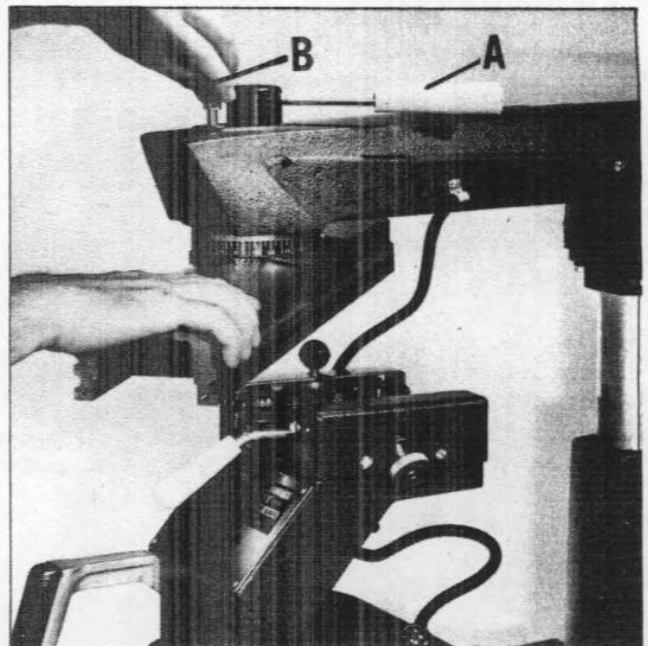

Fig. 7
1. Loosen track lock (A), pull out index knob (B), as shown in Fig. 7, and rotate track-arm 90 degrees to the right.